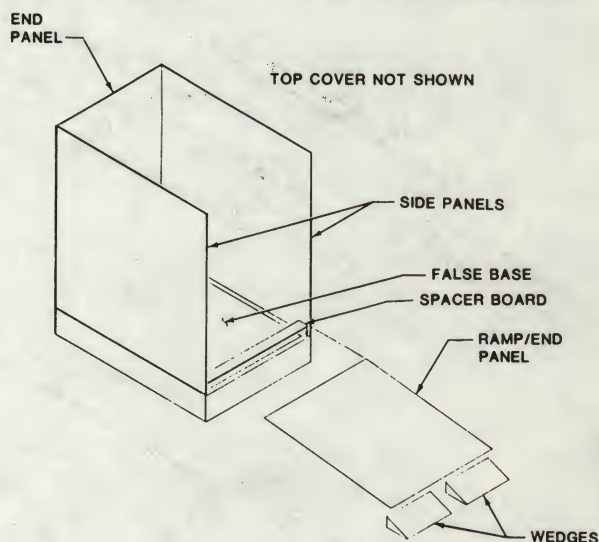

Figure 7-4. Cabinet Shipping Container with Ramp in Unloading Position
3. Refer to Figure 7-4 and use one end panel as a ramp to remove the cabinet from the container base and pallet. The ramp wedges and spacer board are stored under the cabinet assembly.